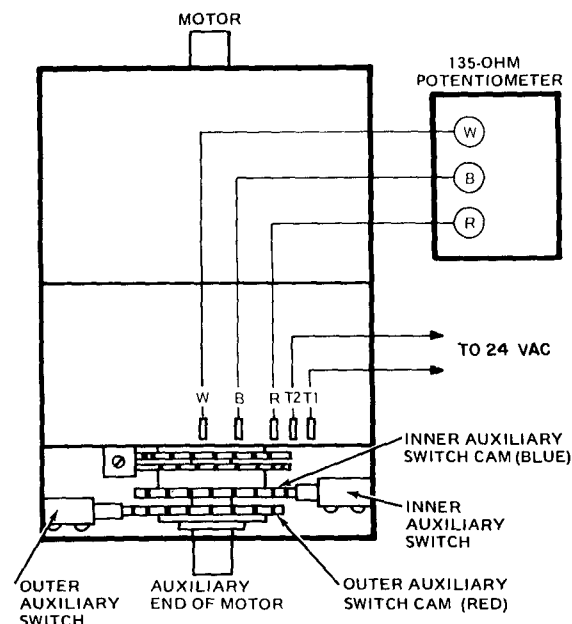

Fig. 29 — Auxiliary Switch Stroke Adjustment
2. Disconnect controller from motor. Connect RED, WHITE, and BLUE terminals on the 135 ohm manual potentiometer to corresponding RED, WHITE and BLUE terminals on the motor. Connect 24-vac power to Terminals 1 and 2. See Fig. 29.